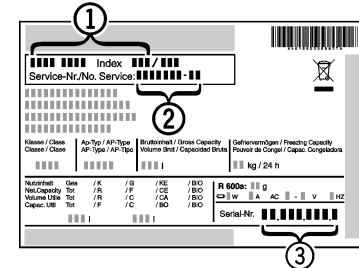

Fig. 50
- ▶ Notify a qualified service provider, specifying the fault, appliance designation *Fig. 50 (1)*, service no. *Fig. 50 (2)* and serial *Fig. 50 (3)* no.